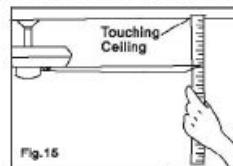

Fig.15
5. Most fan wobble problems are caused when blade levels are unequal. Check this level by selecting a point on the ceiling above the tip of one of the blades. Measure this distance as shown in Figure 15. Measurements deviation should always be within $1/8$ ". Rotate the fan until the next blade is positioned for measurement. Repeat for each blade.